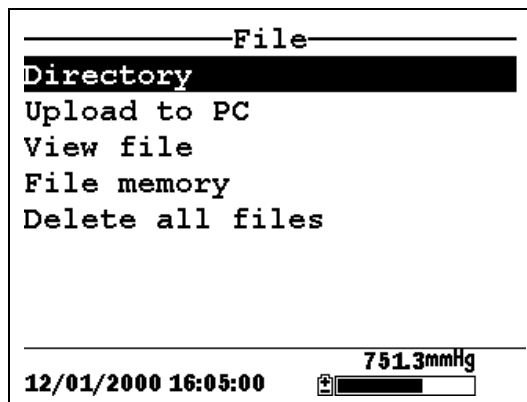

Figure 8.2 File Screen
2. Use the arrow keys to highlight the **Directory** selection. See Figure 8.2 File Screen.
1. Go to the file screen as described in Section 8.1 *Accessing the File Screen*. See Figure 8.2 File Screen.
3. Use the arrow keys to highlight the **Upload to PC** selection. See Figure 8.2 File Screen.
2. Use the arrow keys to highlight the **File memory** selection. See Figure 8.2 File Screen.